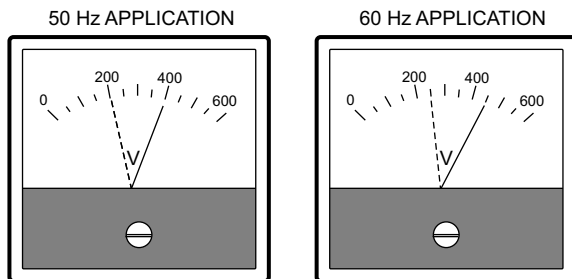

Figure 48. Voltmeter (50/60 Hz Application)
9. The generator's **AC voltmeter** (Figure 48) will display the generator's output in **VOLTS**.